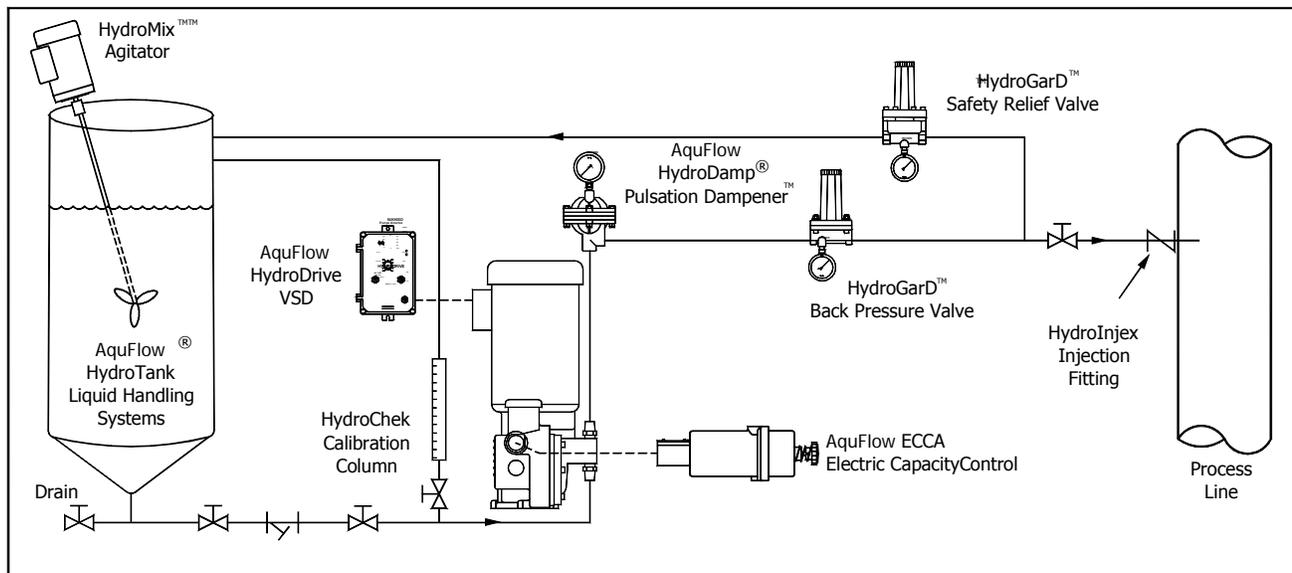

Figure 3. System Diagram
1. Series 900 pumps are shipped with hydraulic oil in the reservoir chamber. Remove the oil reservoir cover by removing the four (4) cover screws (6624). Check the oil level to be certain that it has not dropped below the level shown below. Add oil as needed.
3. Be certain the two (2) crosshead grease fittings have been adequately lubricated, using a good quality chassis lube.
5. Check to be certain that accessory components and fittings have been installed in proper orientation as shown in figure 3.
The pump should be calibrated by measuring the decrease in liquid level pumped from a HydroChek™ calibration column installed in the suction line as shown in figure 3. Follow the instructions provided by the calibration column manufacturer.